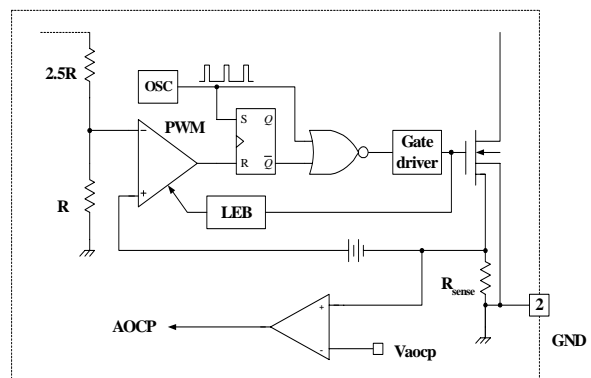

Figure 11. AOCP block
**3. Feedback Control :** FSCQ1565RP employs current mode control, as shown in Figure 11. An opto-coupler (such as the H11A817A) and shunt regulator (such as the KA431) are typically used to implement the feedback network. Comparing the feedback voltage with the voltage across the Rsense resistor plus an offset voltage makes it possible to control the switching duty cycle. When the reference pin voltage of the KA431 exceeds the internal reference voltage of 2.5V, the H11A817A LED current increases, thus pulling down the feedback voltage and reducing the duty cycle. This event typically happens when the input voltage is increased or the output load is decreased.
**3.1 Pulse-by-pulse current limit:** Because current mode control is employed, the peak current through the Sense FET is limited by the inverting input of PWM comparator (Vfb\*) as shown in Figure 11. The feedback current (IFB) and internal resistors are designed so that the maximum cathode voltage of diode D2 is about 2.8V, which occurs when all IFB flows through the internal resistors. Since D1 is blocked when the feedback voltage (Vfb) exceeds 2.8V, the maximum voltage of the cathode of D2 is clamped at this voltage, thus clamping Vfb\*. Therefore, the peak value of the current through the Sense FET is limited.